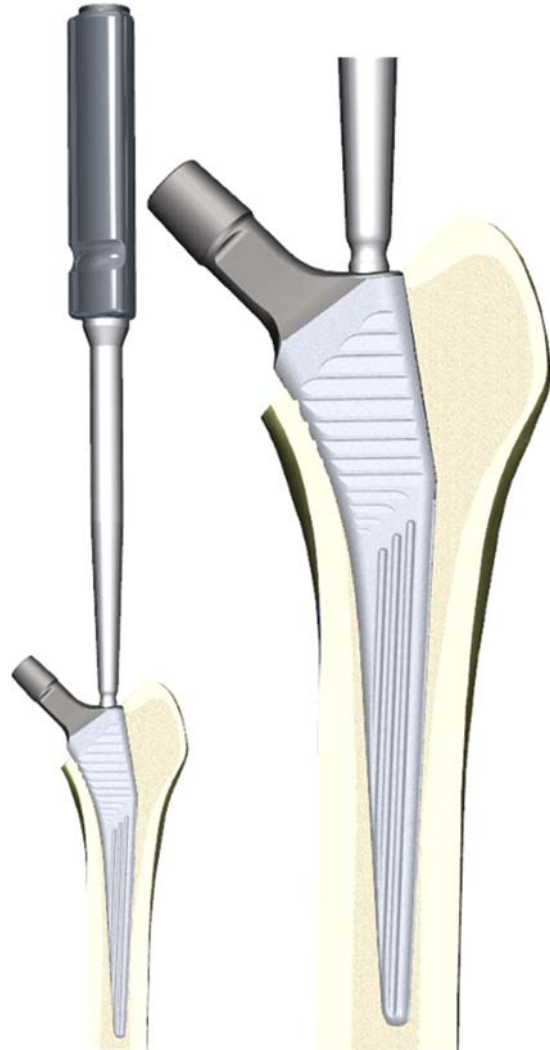

Figure 9: Implantation of the stem
- Insert the prosthetic device into the implant bed up to the resection plane using the stem impactor (Figure 9).